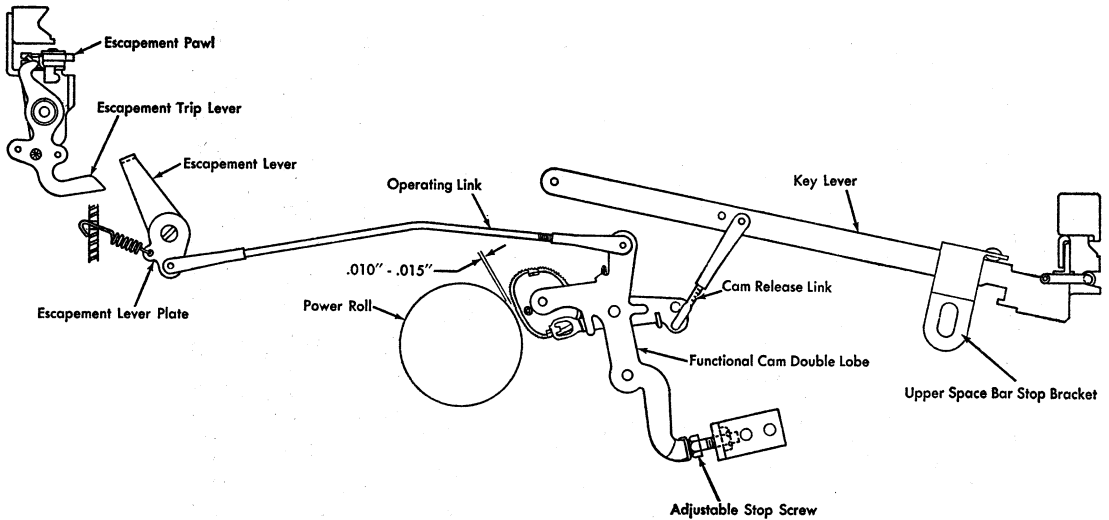
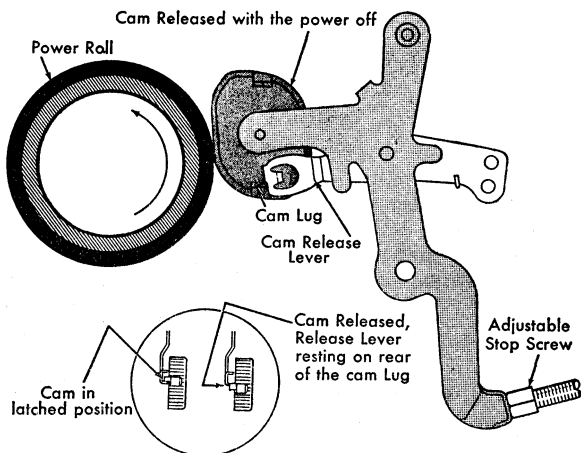

Figure 24. Space Bar Mechanism
Figure 25. Space Bar Cam Adjustment
1. CAM CLEARANCE. Use the adjustable stop screw to make the cam clear the power roll by .010" to .015" (Figure 24). This adjustment can be observed by releasing the cam with the power off, and noting the position of the cam release lever with respect to the cam lug. The adjustment is correct when the cam release lever rests on the rear half of the cam lug as shown in Figure 25. Check the adjustment on both cam lugs.
3. UPPER SPACE BAR STOP BRACKET. Adjust this up or down to allow the cam to reset just before the key lever strikes the stop bracket (Figure 24).